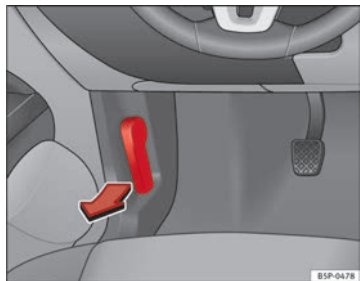

Fig. 161 Detail of footwell area on driver side: lever for unlocking the bonnet.
- To release the bonnet, pull the lever under the dash panel ⇒ fig. 161 in the direction indicated (arrow). The bonnet will be released by a spring action ⇒ ⚠.